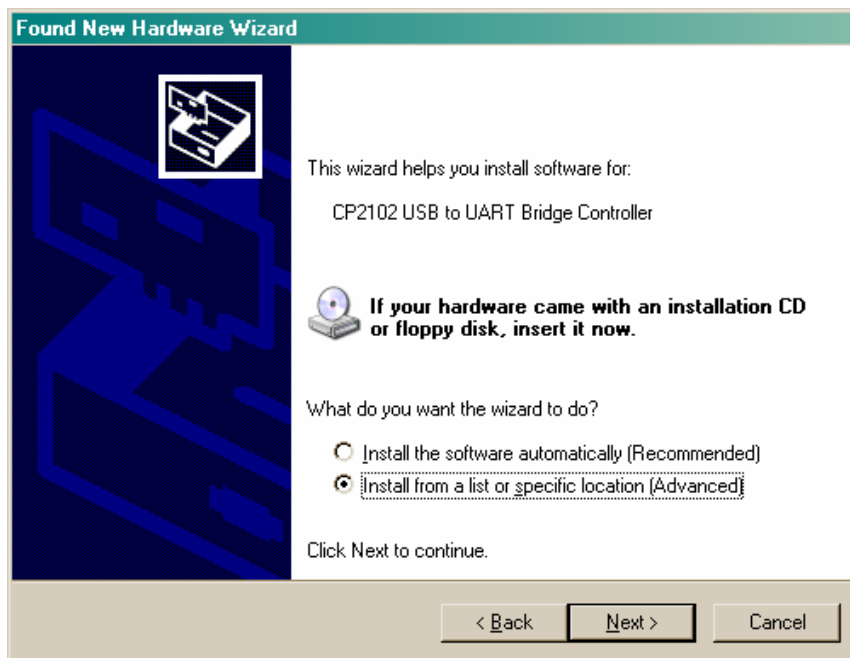

Figure 13
3. The window shown in Figure 13 should appear. In this window, click one time on the circle beside **Install from a list or specific location (Advanced)** so that it has a black dot in its center. After completing this task, select **Next** to continue with the Driver Installation.